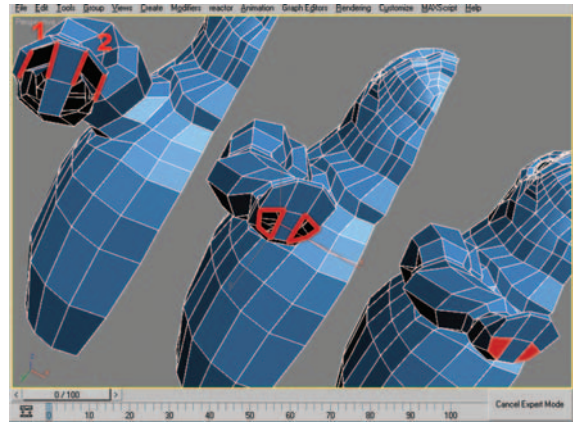

Figure 9.56 Edge selections (left), after using Bridge (you are left with two open borders; center), and after capping the borders (right).
17. Select the edges seen in Figure 9.56 (left) and use the Bridge command to create two new polygons (you will need to do one side at a time for Bridge to work properly; Figure 9.56, center). You are left with two four-sided open borders. At the Border subobject level, select them both and use Cap to fill them. Conveniently, Cap will create two four-sided polygons (Figure 9.56, right).